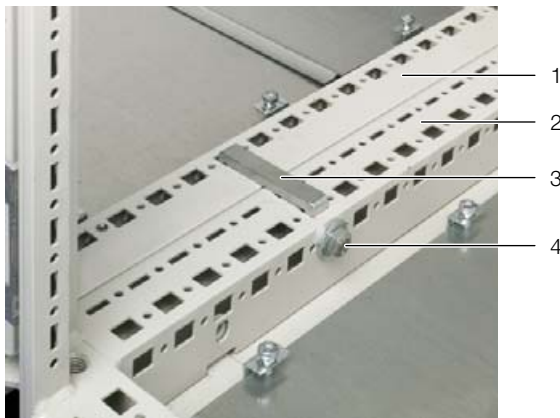

Fig. 25: Baying clamp
- In the front section, push out a baying clamp (Fig. 25, item 3) from the server enclosure (Fig. 25, item 2) through the corresponding notch in the side panel of the LCP Inline (Fig. 25, item 1).
- From the server enclosure, tighten the baying clamp (Fig. 25, item 4), so that the frames of the server enclosure and LCP Inline are firmly connected to one another.